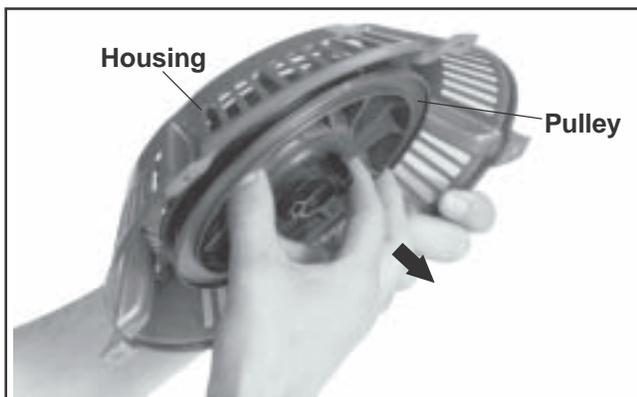

Figure 7-7. Removing Pulley from Housing.
8. Rotate the pulley slightly from side to side and carefully separate the pulley from the housing. See Figure 7-7.